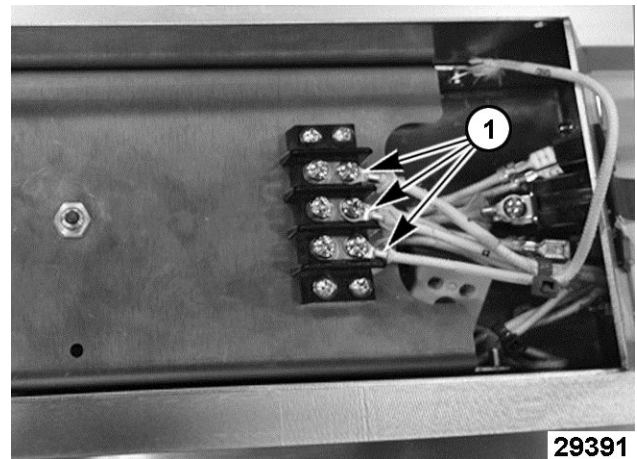

Fig. 44
3. Note heating element wire locations (1, Fig. 44) and disconnect from terminal strip.